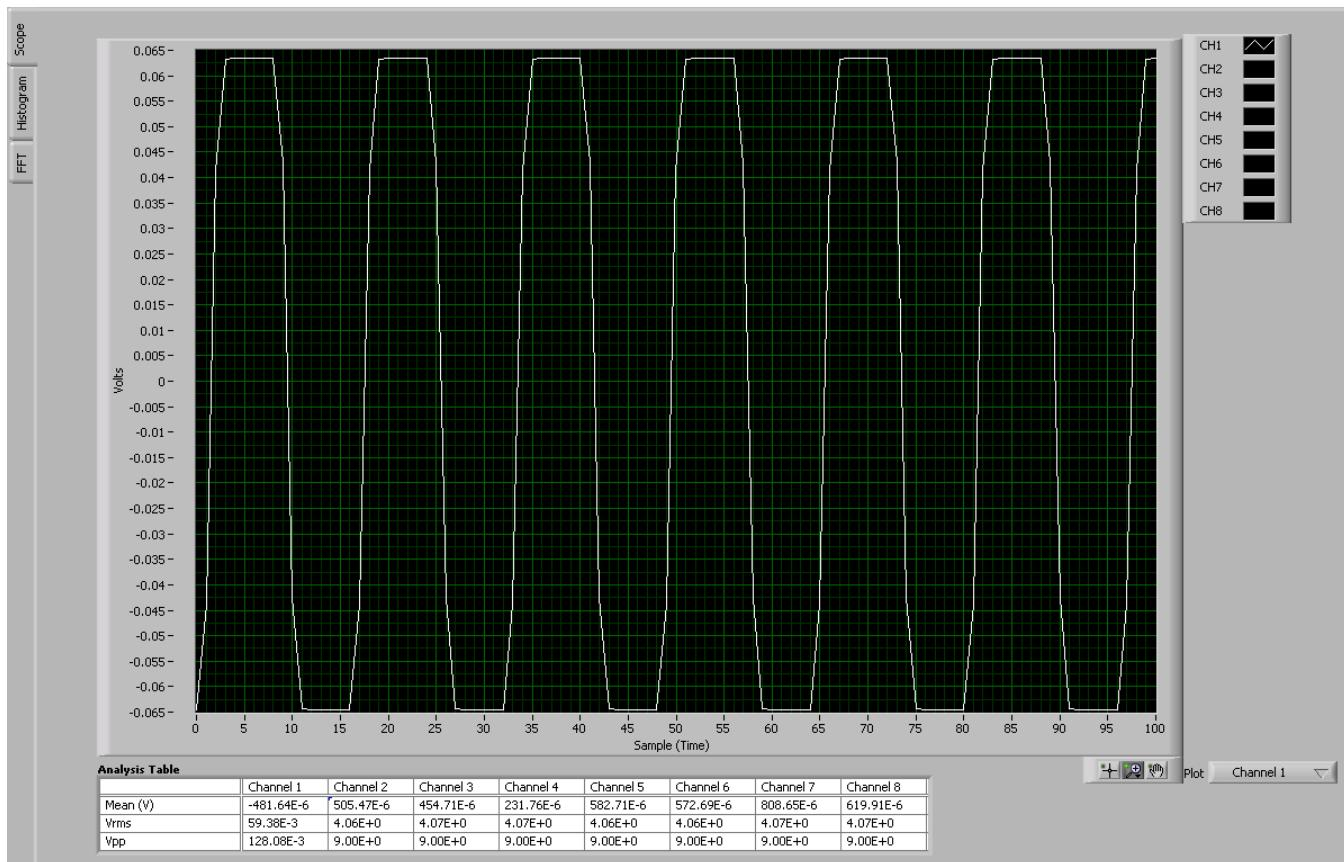
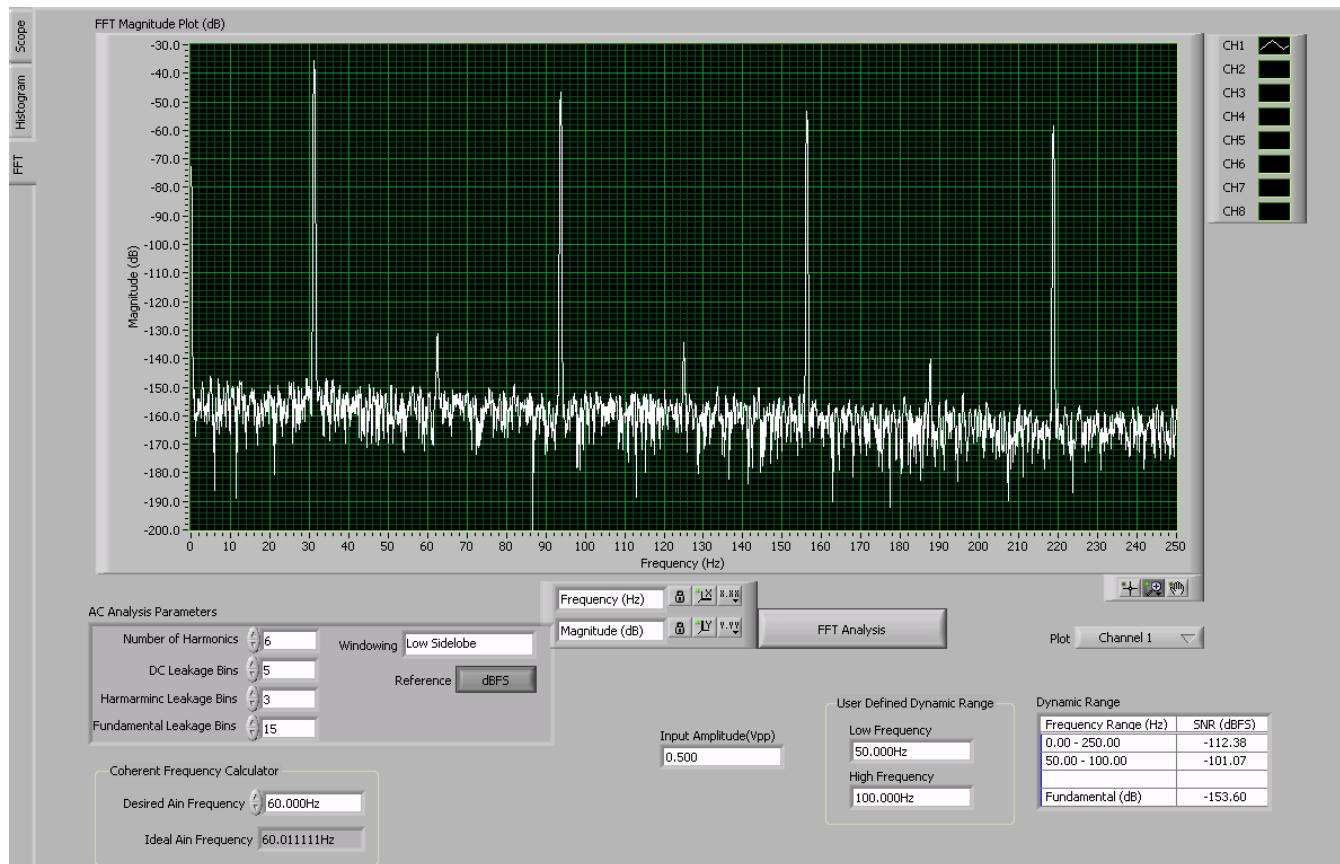

Figure 44. Scope tab for Impedance Measurement at 31.25Hz
Figure 45. FFT Analysis for Impedance Measurement at 31.25Hz
Step 4. The software has an option where the LOFF_STATP and LOFF_STATM Registers are continuously polled (set the *Read Status Registers* switch as shown in Figure 43). This option allows the user to see the lead-off detection scheme work in real time. Figure 44 shows a case for which only positive electrodes are connected.
As an example Figure 44 shows the snapshot of the scope with 5K impedance on each source with 6μA of lead-off current at 31.25Hz. We expect a theoretical peak to peak voltage of 120mV. The observed peak-to-peak voltage is 128mV which is within the tolerance specification of current source. The results can also be analyzed in frequency domain using the FFT analysis tab as shown in Figure 45. The magnitude of the fundamental component will be directly proportional to the electrode impedance being measured.